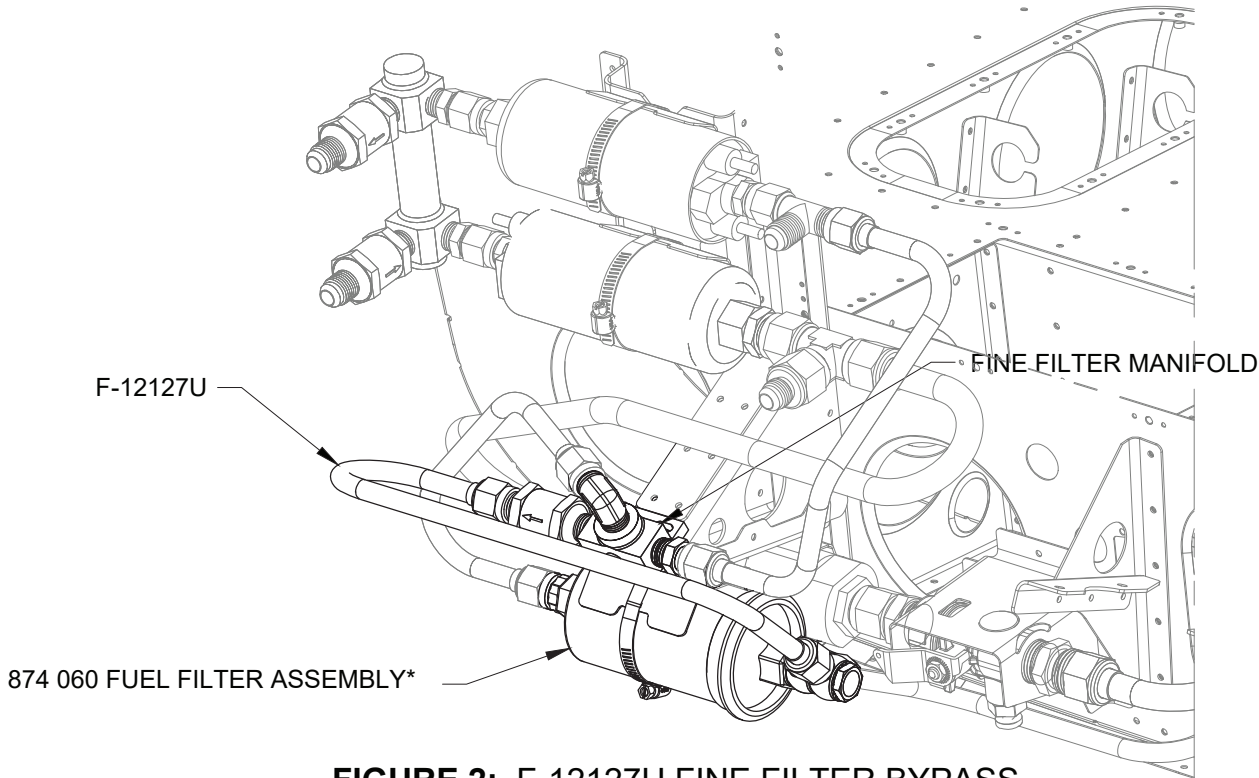

FIGURE 2: F-12127U FINE FILTER BYPASS INSTALLATION
Step 4: Attach the F-12127U to the 874 060 Fuel Filter Assembly* and the Fine Filter Manifold as shown in Figure 2. A small amount of bending/adjustment by hand is acceptable.